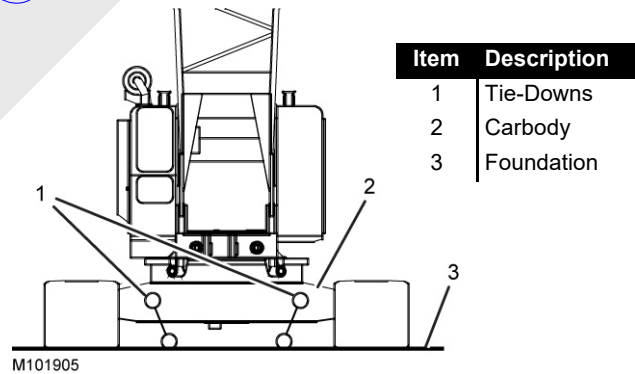

Figure 2-8. Crawler-Mounted Crane
1. Crawler-mounted crane with the carbody anchored with tie-downs to the foundation (Figure 2-8).